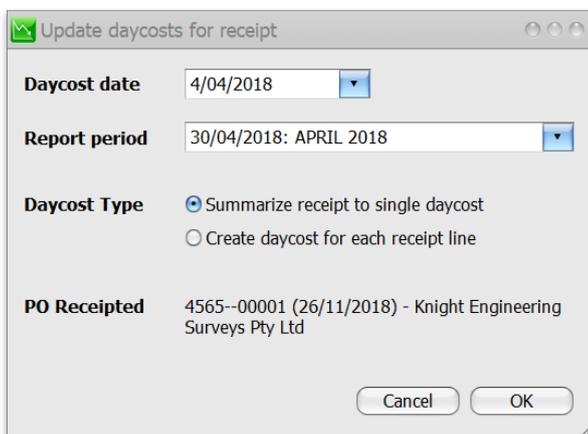

Figure 65 Updating daycosts for receipt
- The Update Daycosts for Receipt dialog box will open. Make sure the 'Summarize receipt to a single daycost' circle is checked then click OK (Figure 65).